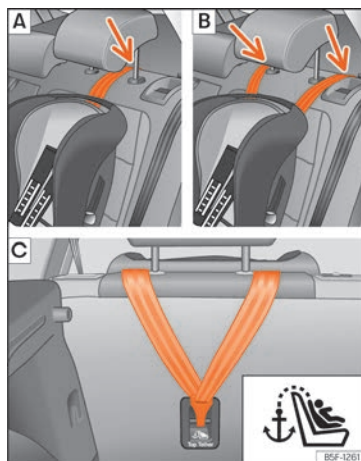
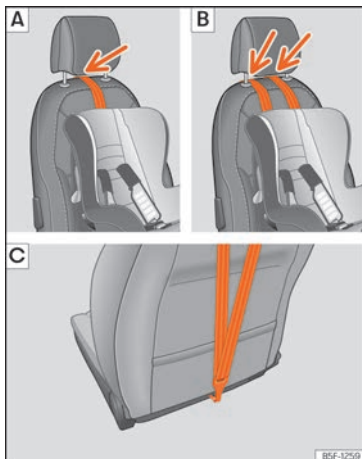

Fig. 29 Rear seats: adjustment and assembly according to the Top Tether belt.
Fig. 30 Front passenger seat: adjustment and assembly according to the Top Tether belt.
»» Fig. 29 [A]/[B], »» Fig. 30 [A]/[B].
- Slide the strap and secure it properly with the anchorage of the backrest »» Fig. 29 [C], »» Fig. 30 [C].